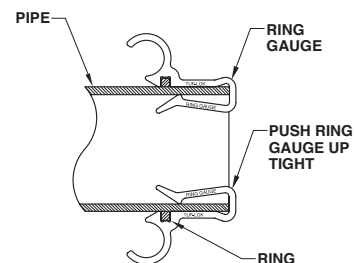

Fig. 4
4. Make sure nylon ring gauges are pushed up tightly to the end of the pipe in order for the ring to be located in the proper position (see Fig. 4).